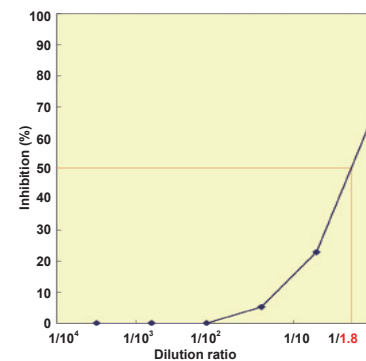

Fig.5 Inhibition curve of erythrocyte
- 1) Read the dilution ratio at 50% inhibition (IC50) from the inhibition curve (Fig.5). The dilution ratio at IC50 is 1/1.8.